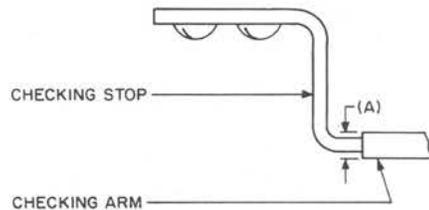

Fig. 25—Checking Stop Alignment
- (2) Position the antioverthrow pawl so that the checking arm and the checking stop are abutting.
- (3) Electrically operate the INT solenoid [2.31(b)].
- (4) Take up any play between the actuating rollers and intermittent clutch driven member by sliding the driven member to the right.
- (5) Measure the gap between the nearest surfaces of the clutch members.
- (c) With the checking arm of the antioverthrow pawl abutting the checking stop as shown in Fig. 25, (A), the vertical sides of the checking stop shall fall within the diameter of the checking arm. Gauge by eye.